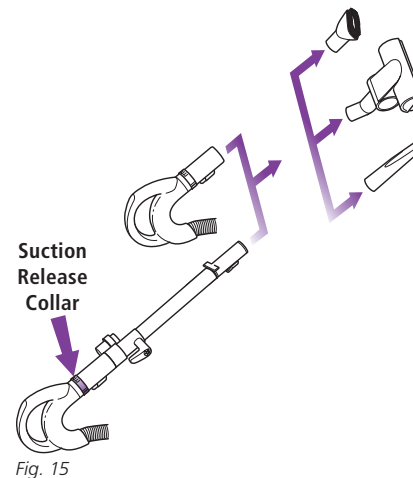

Fig. 15
- 2 Attach desired accessory onto the end of either the extension wand or the handle. (Fig. 15)
- 3 **Your vacuum has tremendous suction power. Adjust the amount of suction with the suction release on the handle. Open the valve for low suction when doing light jobs such as drapes or fine surfaces. Close the valve for high suction and when using the hand held turbo brush. (Fig. 15)**